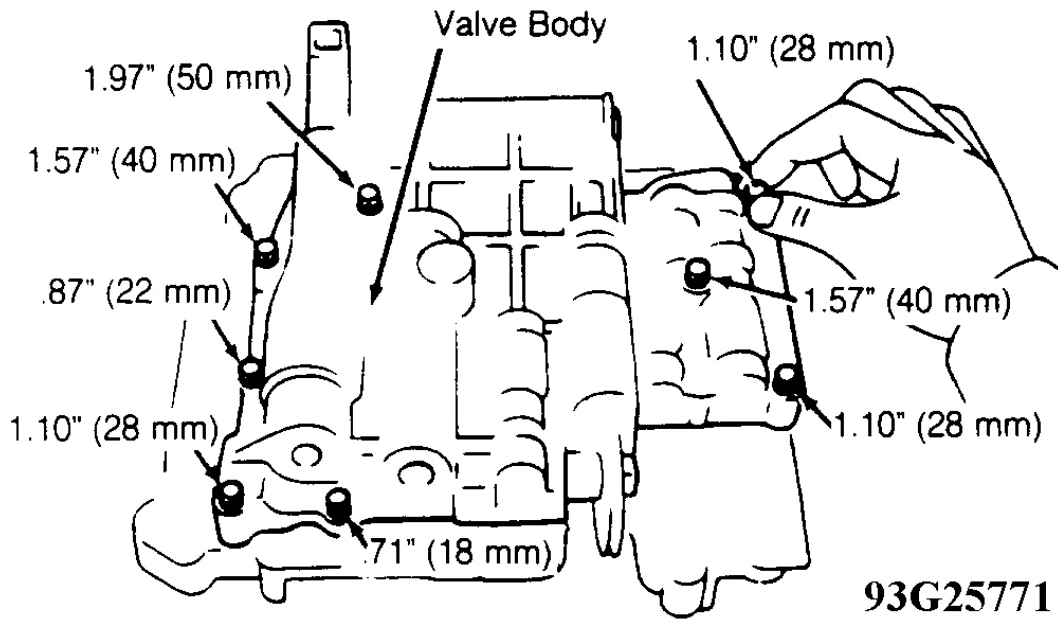

Fig. 41: Installing Upper Valve Body & Cover Bolts
4. Install and finger tighten bolts in upper valve body. Ensure correct length bolts are installed in original positions. See **Fig. 41**. Install strainer, new gaskets and plate.